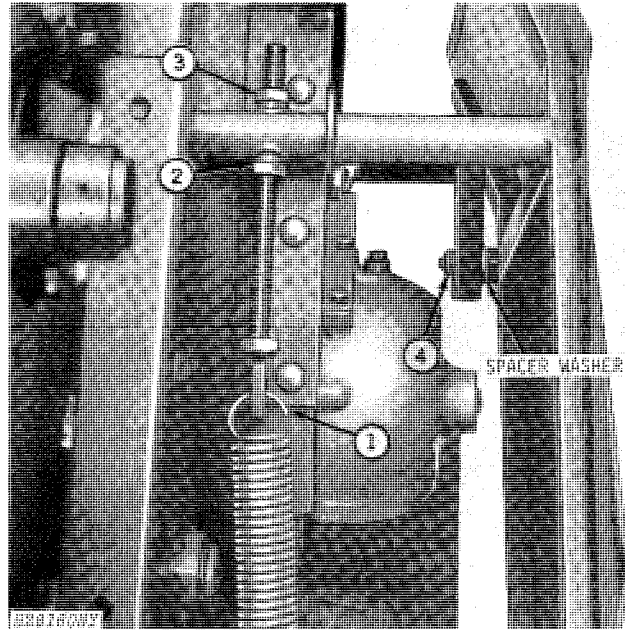

Fig. 68-Attaching Divider Point to Outside Bracket
1. Hook float spring to spring bracket (Fig. 68).
2. Thread 5/8-inch jam nut on approximately two-thirds the length of the 7-1/2-inch long stop bolt (Fig. 68).
3. Insert stop bolt through trunnion in divider point tube and secure with another 5/8-inch jam nut on the stop bolt (Fig. 68).
4. Attach divider point to outside support bracket with a 5/8 x 3-1/2-inch round head bolt, 21/32 x 1-9/16 x .180-inch flat washer, 11/16 x 1-1/2 x .134-inch flat washer, lock washer, and nut (Fig. 68).